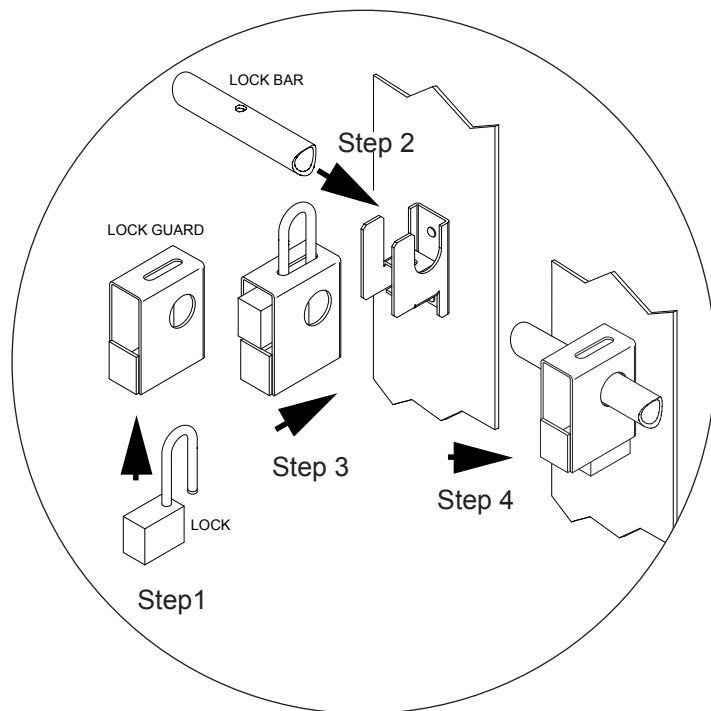

Figure 6, Lock Guard Installation
13. Secure the enclosure with the Security Bar, Lock and Lock Guard. See Figure 6.